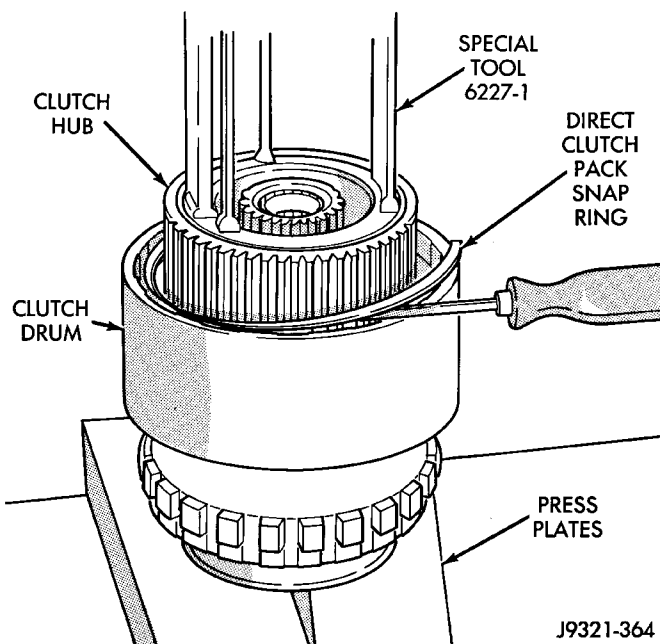

Fig. 201 Direct Clutch Pack Snap Ring Removal
(4) Remove direct clutch pack snap ring (Fig. 201).